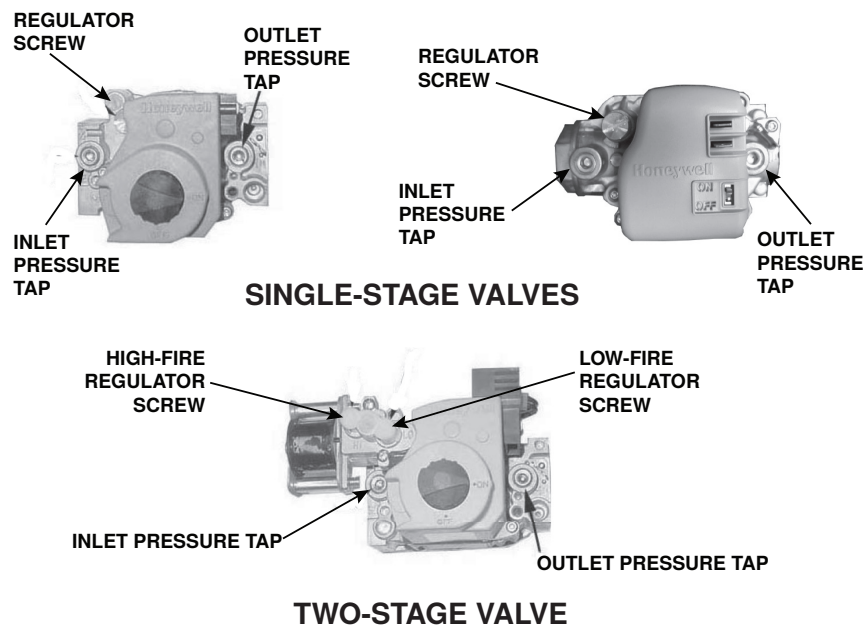

Figure 21. Combination Gas Valves
4. Connect manometer to output pressure tap on valve (see Figure 21).
6. Remove cap from regulator screw (see Figure 21) and adjust pressure in accordance with Table 22 by turning regulator screw IN (clockwise) to increase pressure or OUT (counterclockwise) to decrease pressure. Reconnect wire to Hi terminal on two-stage high fire valve.
9. Connect manometer to inlet pressure tap (see Figure 21). While heater is operating, measure inlet pressure, which should be between 5 and 14 IN WC for natural gas or between 11 and 14 IN WC for propane.